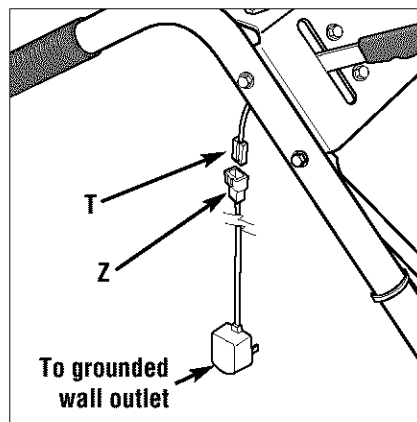

Figure 2-5
1. To charge the battery, locate the plastic connector (T, Figure 2-5) that hangs from the wire harness below the handlebar console.
2. Plug the connector on the battery charger (Z, Figure 2-5) into the connector on the wire harness (T).